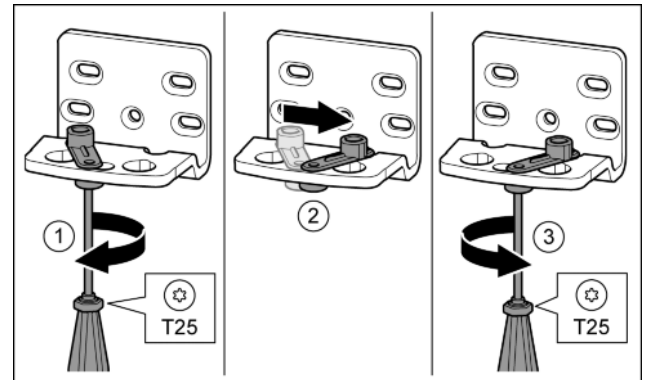

Fig. 15
- Loosen the screw using a T25 screwdriver. Fig. 15 (1)
- Lift the door closure aid and turn it 90° to the right in the hole. Fig. 15 (2)
- Tighten the screw using a T25 screwdriver. Fig. 15 (3)